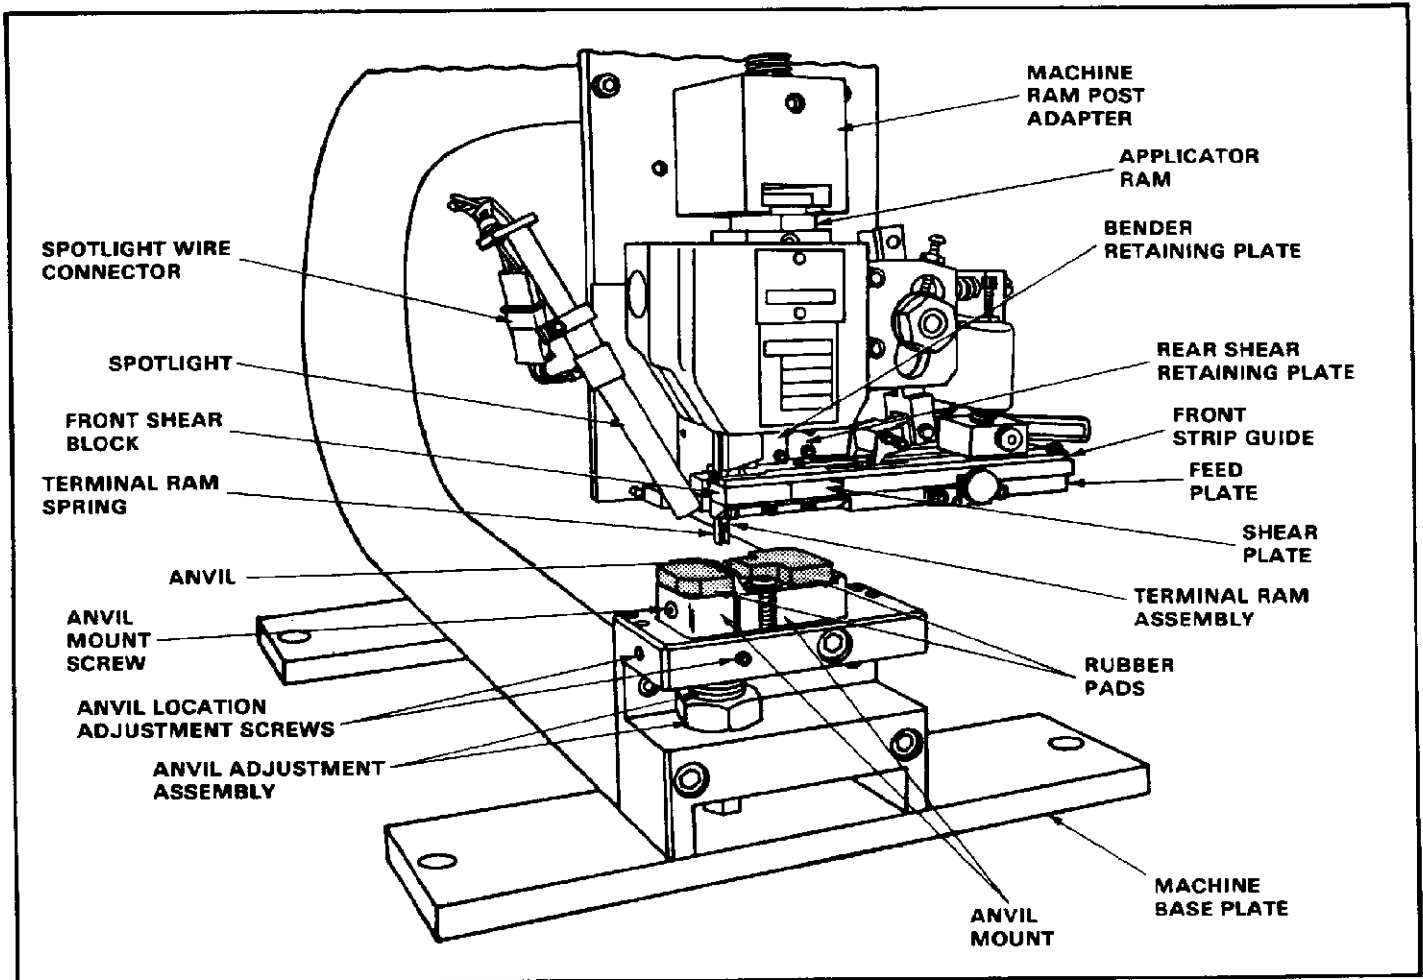

Fig. 3
4.5. Anvil Alignment Adjustment (Figure 3)
4.6. Anvil Height Adjustment (Figure 3)
5. Remove shear plate by removing two screws from bottom of feed plate (Figure 3). Repeat Step 4.
9. Install shear plate by pushing down on rear shear, and slide the shear plate into the assembly until it just touches the rear shear. Install and tighten two screws to secure shear plate (Figure 3).
3. Loosen screw holding terminal ram assembly to applicator ram, and insert the complete ram assembly in applicator (Figure 3).
7.1. Applicator Replacement (Figure 3)
7.2. Anvil Replacement (Figure 3)
7.3. Terminal Ram and Ram Spring Replacement (Figure 3)
7.4. Front Shear Block Replacement (Figure 3)
7.5. Rear Carrier Strip Shear Replacement (Figure 3)
7.6. Terminal Bender Replacement (Figure 3)